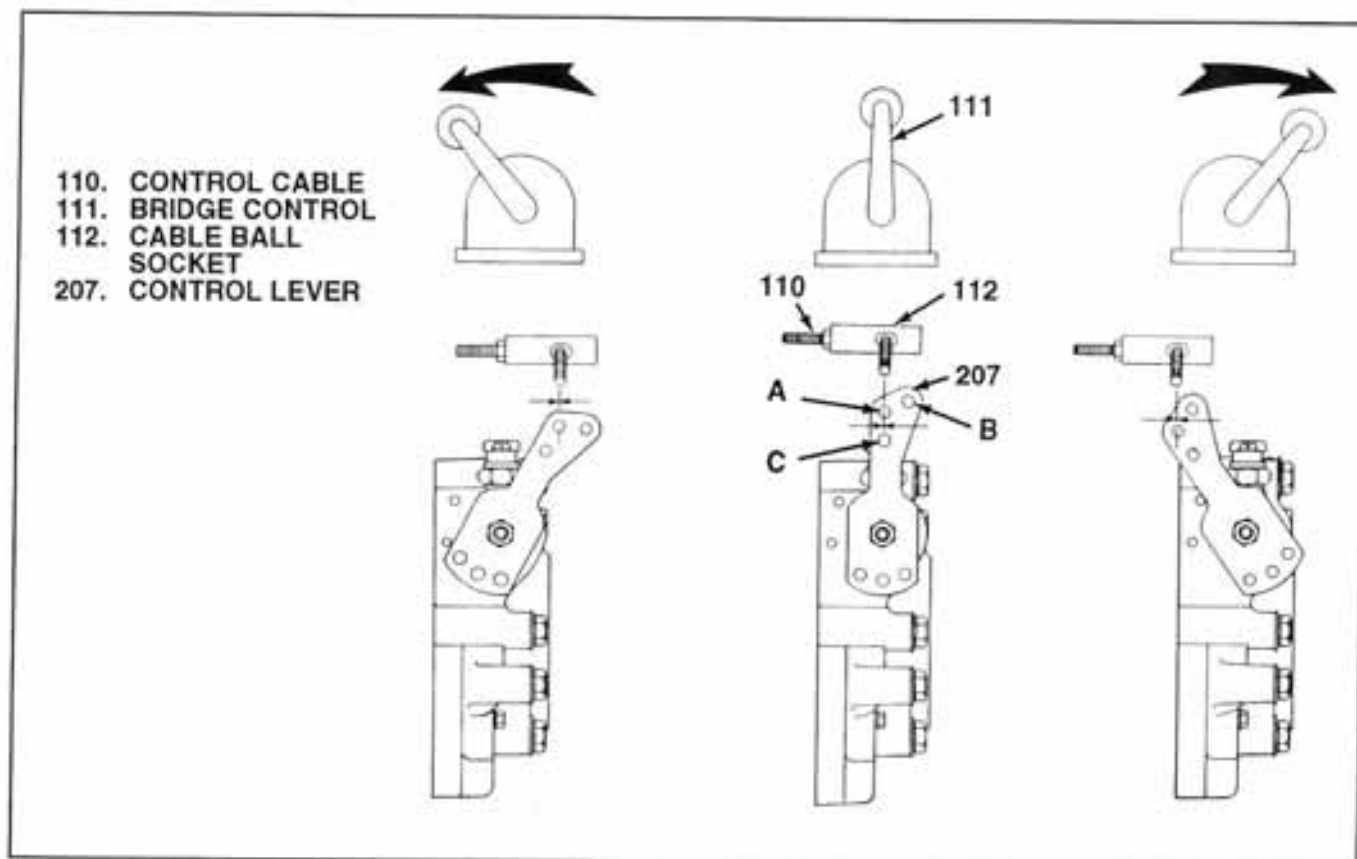

Figure 2-3. Control Cable Adjustment
2-15. With the engine shut down, make cable adjustment as follows (see figure 2-3):
NOTE: Before the following steps, determine which hole the control cable is connected to, A, B, or C. The center hole is the one most commonly used. Stop to stop travel of the center hole (A, figure 2-3) is approximately 2-3/4 in. (70MM). Stop to stop travel for the outer hole (B) is 3 in. (76MM). Stop to stop travel for the inner hole (C:) is approximately 2-3/32in.(53MM).
1. Disconnect control cable from transmission shift lever (207).
2. Place bridge control lever (111) in central, neutral position.
3. Move transmission shift lever (207) to its central neutral position. Make sure lever detent ball is engaged.
4. Adjust cable ball socket (112) to align with proper hole in transmission shift lever (207). Once established, this setting should not need to be altered.